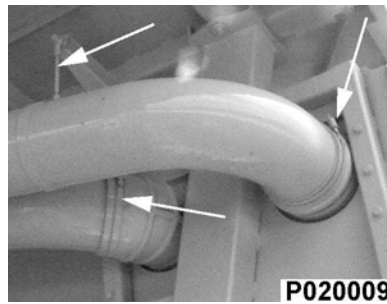

FIGURE 2-9.
18.	AIR INTAKE PIPING - Check all mounting hardware, joints, and connections. Ensure no air leaks exist and all hardware is properly tightened. Figure 2-9.